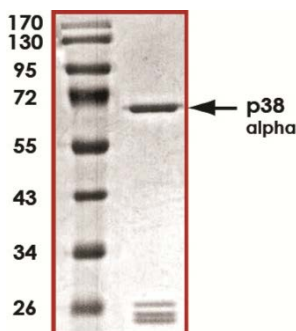

Figure 1: The approximate molecular weight is 67 kDa and the purity is > 95%.
- Molecular Mass** ♦ The approximate molecular weight is 67 kDa (see Figure 1 below).
- Purity** ♦ The purity was determined to be > 95% by densitometry (see Figure 1 below).